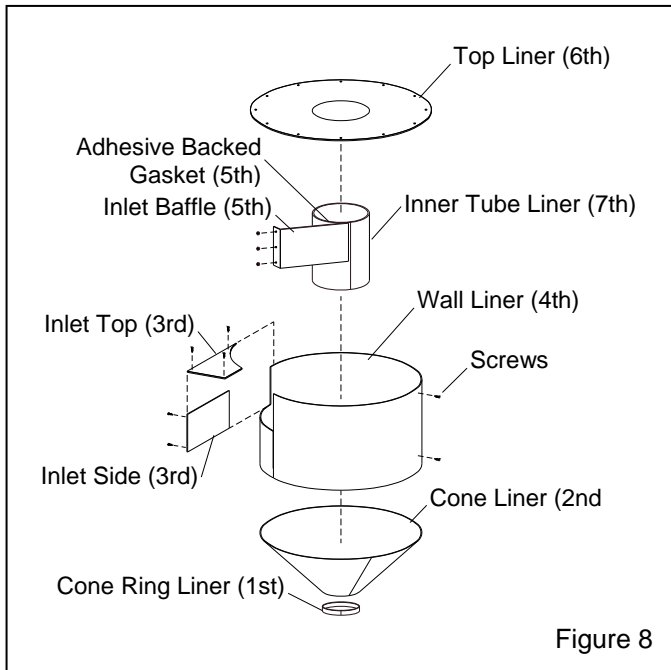

Figure 8
12.2 Replacing Rubber Reclaimer Liners, Figure 8
Installation Note: The numbers in parenthesis (-) shown in Figure 8 and the applicable paragraphs, show the recommended order of installation. When installing the liners, make sure that seams are aligned. The final assembly must be smooth and free of protrusions, edges, and gaps. Any edges will disrupt the air flow, causing wear, and affect the reclaimer's media cleaning efficiency.
12.2.16 (7th) Place the tube liner over the inner tube, and use worm clamps to temporarily clamp the liner to the tube. Align it so the seam is on the backside of the baffle, as shown in Figure 8. Make sure the liner is tight against the top liner, then tack the liner to the bottom of the inner tube in three or four places. Remove the clamps when the tube liner is secured.